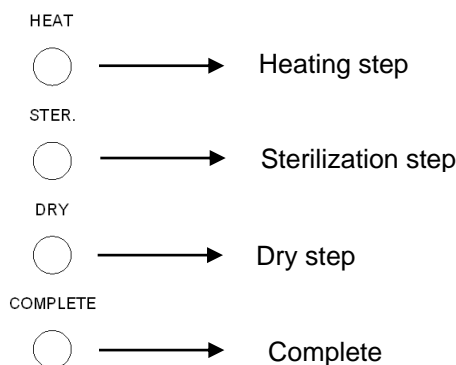

Figure 20
G.4 Press the START Button. The current progress of the sterilization cycle is indicated on the Process Status Indicator. (Figure 20)